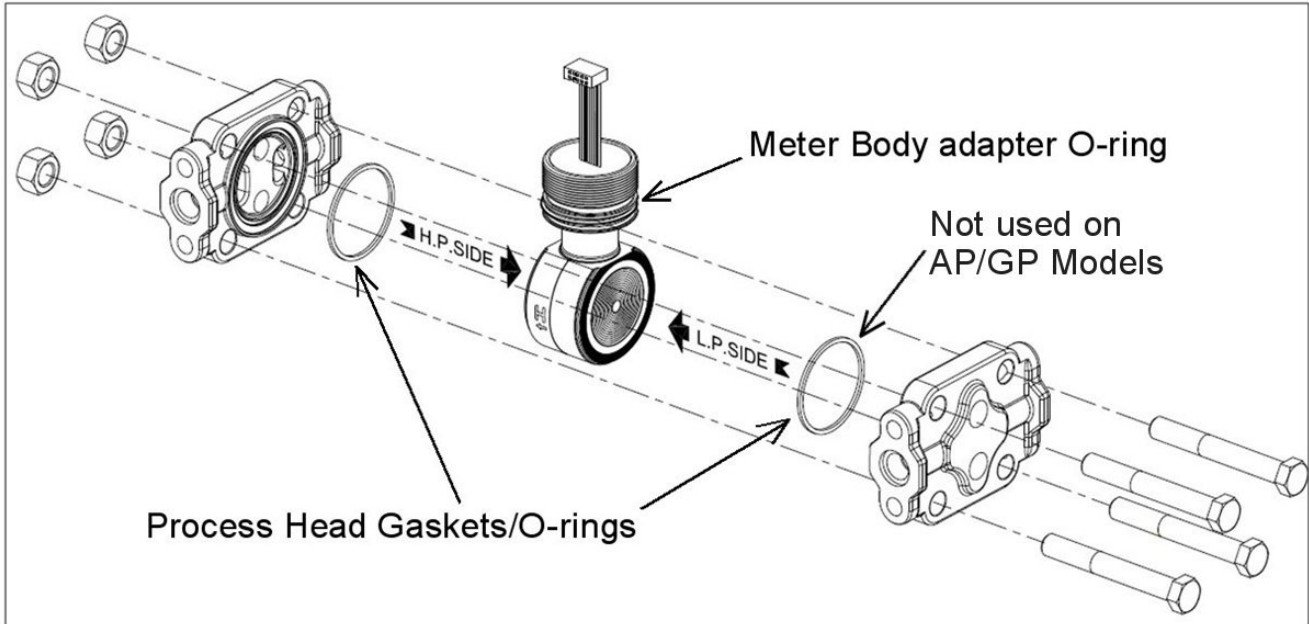

Figure 25 – Meter Body Reassembly
15. Refer to Figure 25. Apply Dow Corning #33 silicone grease to the meter body adapter O-ring and carefully assemble the O-ring to the meter body. Assemble the process head(s) and bolts to the new meter body. For now, make the bolts only finger-tight.